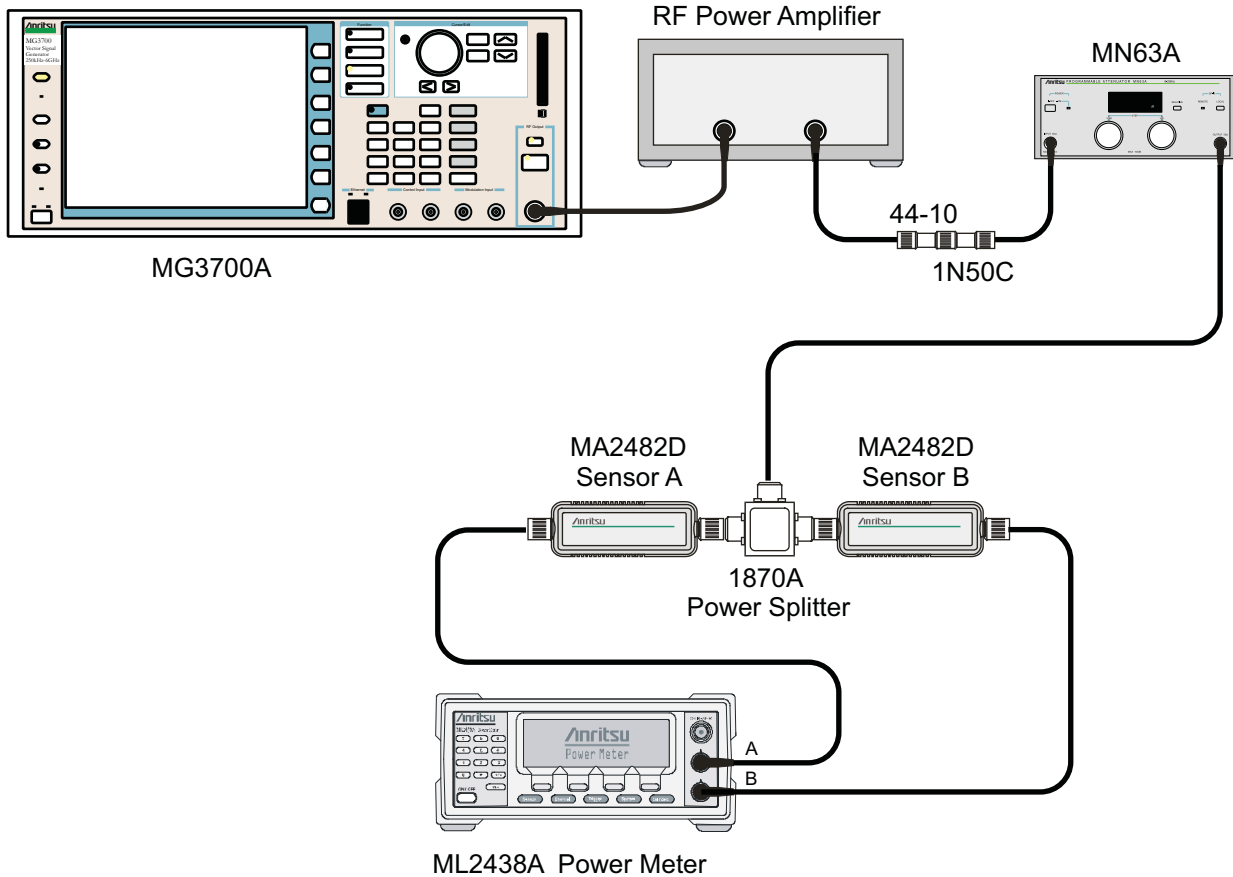

Figure 5-2. ISDB-T Level Accuracy and 1 dB Compression Level Pre-test Setup
3. Connect the MG3700A Signal Generator, Power Amplifier with N(f)-BNC(m) adapters, RF Limiter, MN63A Programmable Attenuator, Power Divider, Power Meter and Power Sensors as shown in Figure 5-2.
42. Turn off the power amplifier, disconnect the power splitter from the MT821xE, re-connect Sensor A to the power splitter as shown in Figure 5-2 on page 5-8.
4. Connect the MG3700A Signal Generator, Power Amplifier with N(f)-BNC(m) adapters, RF Limiter, MN63A Programmable Attenuator, Power Divider, Power Meter and Power Sensors as shown in Figure 5-2 on page 5-8.